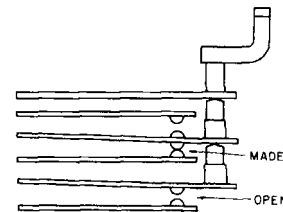

Figure 25. Hookswitch adjustment (loop compensator type).
- Lift the handset off the hook, and be sure the hookswitch springs operate partially only (connecting the receiver). Figure 25 shows the partial operation of the hookswitch springs. Push the hooklatch handle, the hookswitch should operate completely (connecting the dial, and transmitter, etc.). Replace the plastic telephone housing.